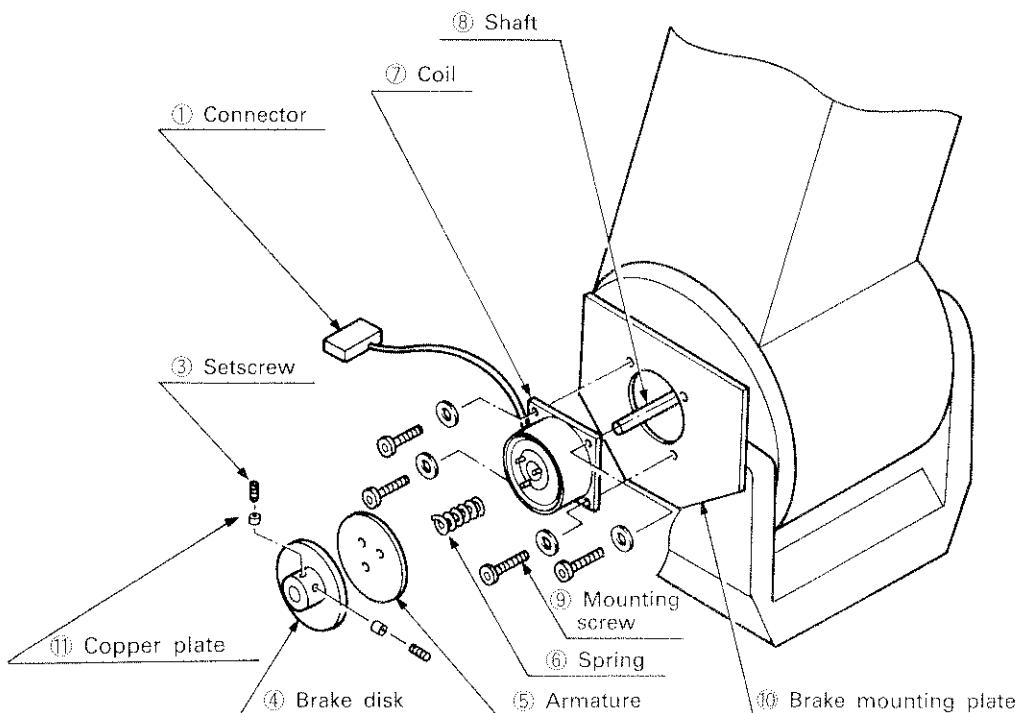

Fig. 4.3.16 Replacing the Shoulder Brake
- (1) Fig. 4.3.16 outlines the replacement procedure of the shoulder brake.
- (2) Make sure that the power switch on the drive unit rear panel is in the OFF position.
- (3) Remove the upper and lower shoulder covers by referring to 3.2 Removal of the Covers.
- (4) The brake connector ① (connector name: "PW") is plugged into position inside the shoulder covers.